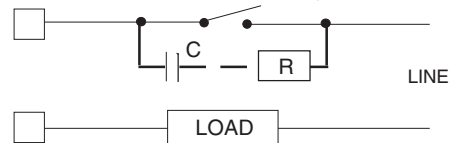

Fig. 12 EXTERNAL SWITCH IN SERIES WITH THE INTERNAL CONTACT
The same problem may occur when a switch is used in series with the internal contacts as shown in Fig. 12.
In this case it is recommended to install an additional RC network across the external contact as shown in Fig. 12. The value of capacitor (C) and resistor (R) are shown in the following table.